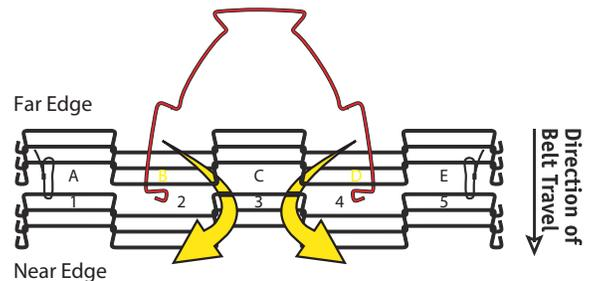

Figure 1
2. Confirm that the edge loops are curving back away from the direction of belt travel (as shown in Figure 1). If not, check to be sure that the belt is not threaded backwards on the conveyor.
4. To hold the belt steady, use ties to connect the two belt edges (as shown in Figure 1, spaces A and E).
4. Bend the strand from each side enough to insert the ends into the two spaces next to the center space (Spaces B and D in Figure 1).